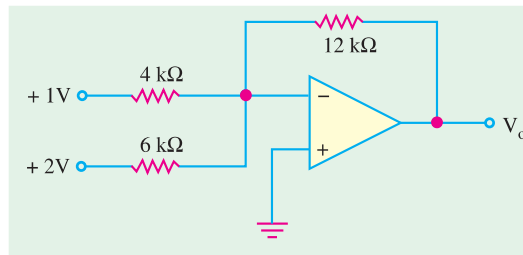

Fig. 68.43
11. In the circuit shown in Fig. 68.43, the value of output, v_o is